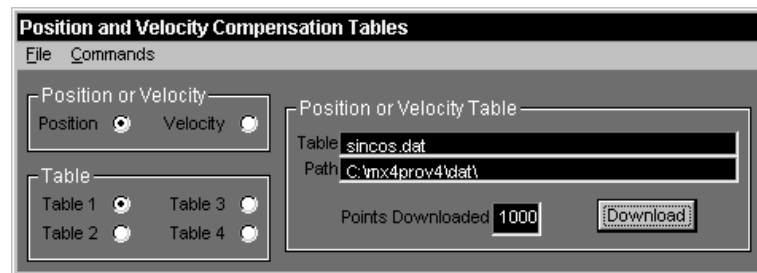

Fig. 12-4: Position and Velocity Compensation Tables Tool
1. **Open the Position and Velocity Compensation Data File Selection window.** This can be achieved by selecting **Open...** under either the **File** menu or in the popup menu (right click in the Position and Velocity Compensation Tables Tool window), or by double-clicking inside one of the two black areas (File or Path text boxes) inside the Position and Velocity Compensation Tables Tool window (Figure 12-4).
Before an opened Position or Velocity Compensation Table may be downloaded the position or velocity table number and type of table (position or velocity) to download to must be set (Figure 12-4).